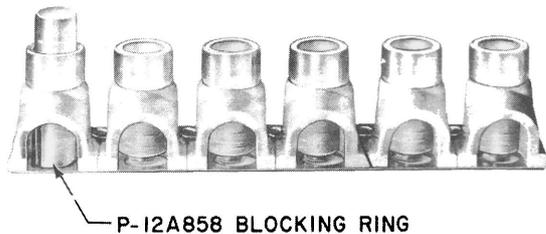

Fig. 3 – P-12A858 Blocking Ring, Installed
2.09 Unused buttons may be blocked with a P-12A858 blocking ring. Insert ring as shown in Fig. 3.